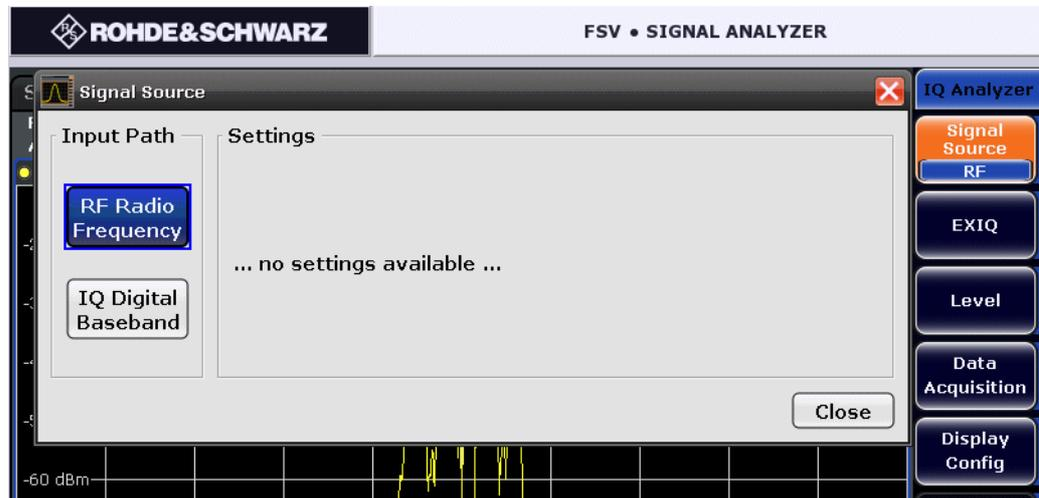

Figure 27: Select the R&S FSV's signal input
- ▶ Now select *RF Radio Frequency*, see Figure 27.